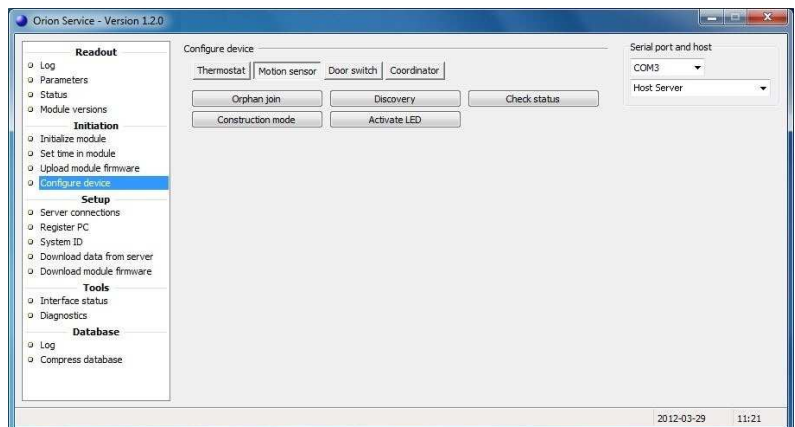

Figure 28
5. Wait a few seconds and then click the **Check status** button in the **Motion sensor** tab of **Configure device**; see Figure 28. If the device has joined successfully, the message 'Device is online' is shown. If that message is not displayed, wait a few more seconds and check the status again. If still offline, repeat the discovery process.